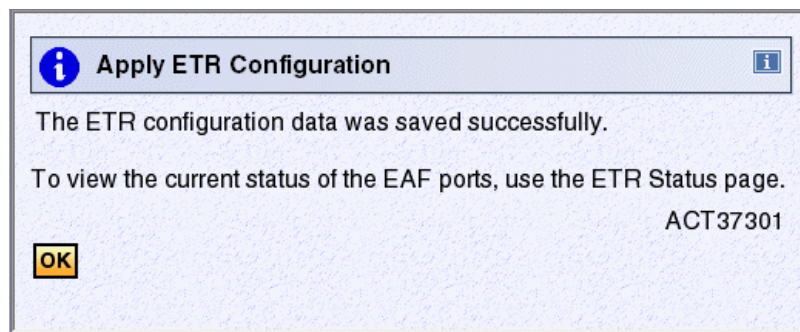

Figure 10-12 Message ACT37301: Apply ETR Configuration (SCZP201)
6. Confirm the configuration change by clicking **Yes**. This will display the Apply ETR Configuration, message ACT37301, indicating that the change was successful (Figure 10-12).